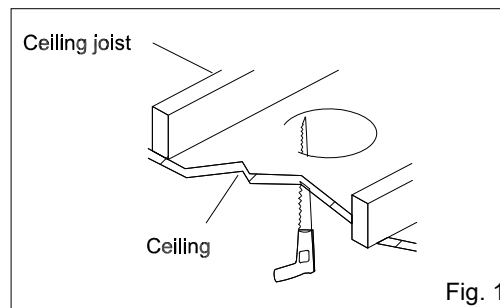

Fig. 1
- Using a keyhole saw to cut out a hole in the ceiling surface (Fig. 1). For cutout dimensions, refer to Table 1 below. **Note:** Be sure not to make the hole any larger than specified by the table. An oversized hole may not allow for proper installation.